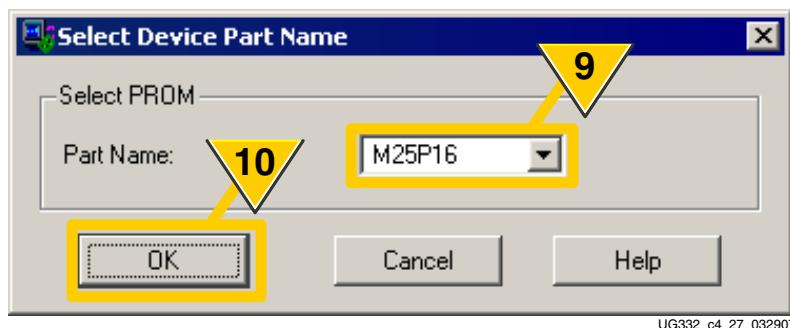

Figure 4-25: Select SPI Flash PROM Type
9. Select the part number for the attached SPI Flash PROM, as shown in Figure 4-25.